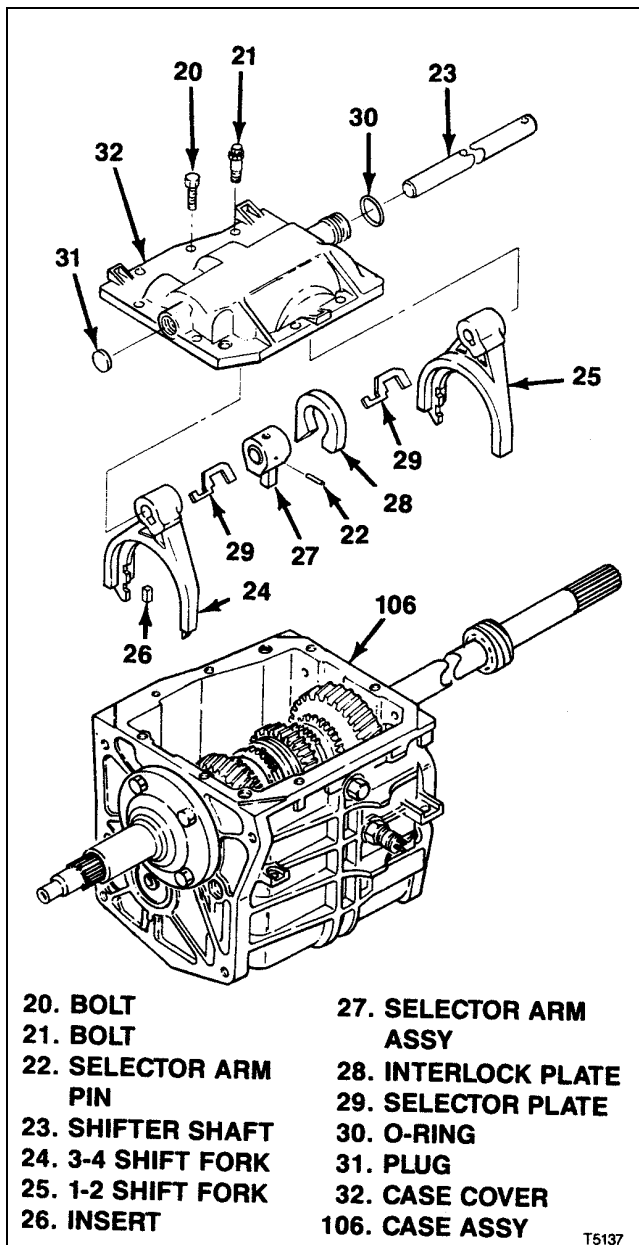

Figure 4-3. T5 STD Case Cover
**4-9. REMOVAL OF T5 STD CASE COVER AND DISASSEMBLY OF SHIFT FORKS.** With transmission assembly upright, proceed as follows (see figure 4-3):